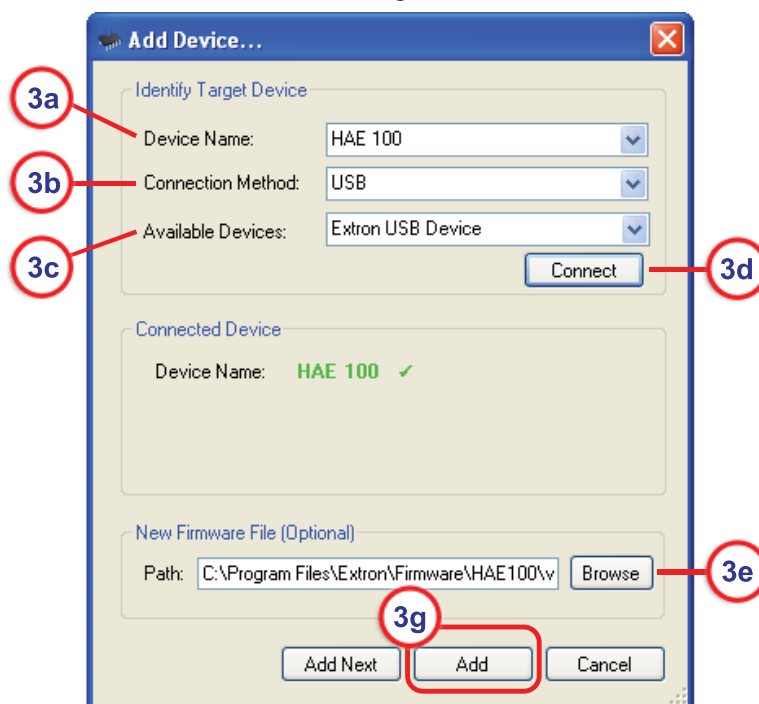

Figure 7. Add Device Window
3. On the Add Device window (see figure 7):
- g. On the Add Device window, click **Add** (see figure 7). The Add Device window closes.